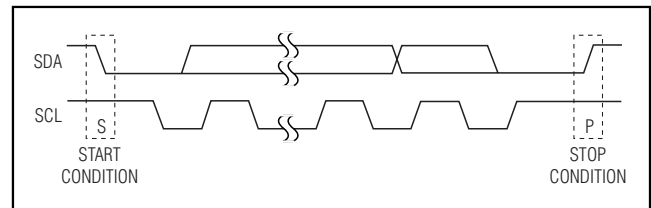

Figure 2. START and STOP Conditions
Each transmission consists of a START condition sent by a master, followed by the MAX7321's 7-bit slave address plus R/W bit, 1 or more data bytes, and finally a STOP condition (Figure 2).
Both SCL and SDA remain high when the interface is not busy. A master signals the beginning of a transmission with a START (S) condition by transitioning SDA from high to low while SCL is high. When the master has finished communicating with the slave, the master issues a STOP (P) condition by transitioning SDA from low to high while SCL is high. The bus is then free for another transmission (Figure 2).